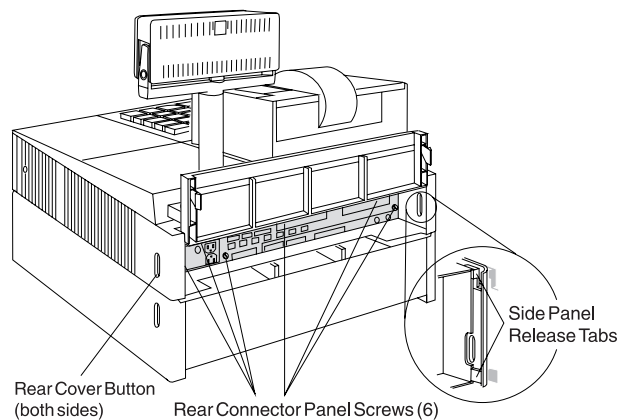

Figure 1-15. Rear Connector Panel
- 9 Pivot the left end (facing the rear) of the rear connector panel outward so that it clears the side cover. This is a very tight fit, so you may have to flex the side cover slightly outward. See Figure 1-15.
- 7 From the rear of the terminal, press the latching tabs on the inside rear of each side cover while pushing the cover forward until it becomes disengaged. See Figure 1-15 on page 1-87.